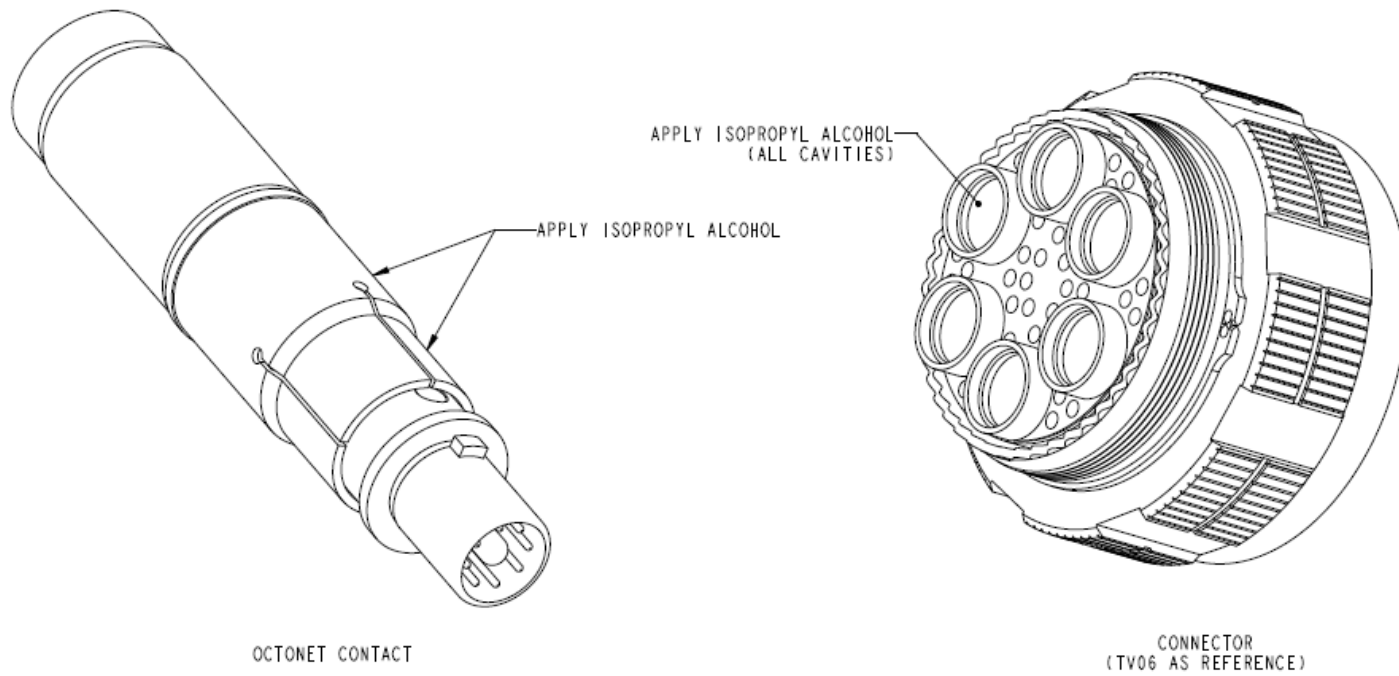

FIGURE 2
- use isopropyl alcohol for lubrication. Apply at the indicated areas in Figure 2.